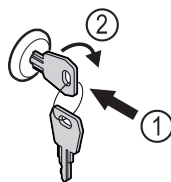

Fig. 106 Example illustration
- Insert key Fig. 106 (1).
- Turn key clockwise by 90° Fig. 106 (2).